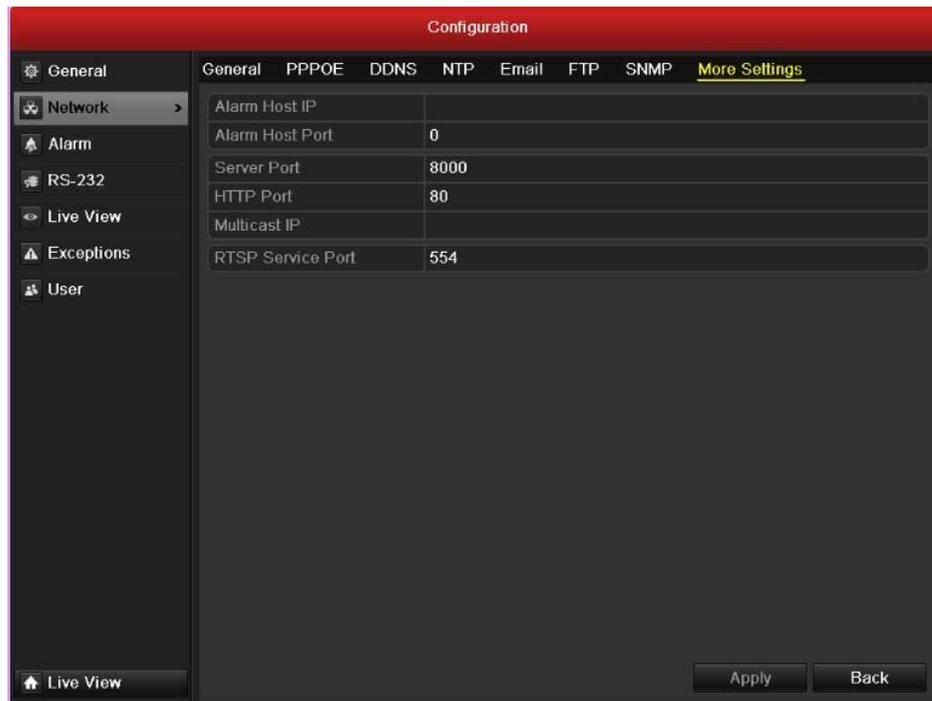

Figure 10.18 Host/Others Settings Menu
3. Enter new **Server Port** and **HTTP Port**, as shown in Figure 10.18.